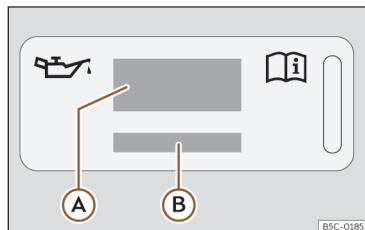
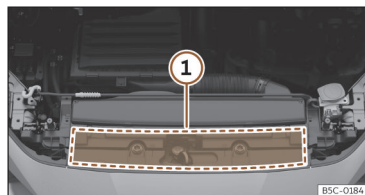

Fig. 229 In the engine compartment: engine oil label
Fig. 230 In the engine compartment: area where the engine oil label is located
Key to the >>> **Fig. 229:**
If the engine oil has to be topped up, use one of the oils shown on the label >>> **Fig. 229**. The label with the prescribed standard is located at the front of the engine compartment >>> **Fig. 230** **1**. If you use the recommended engine oil, you can top up the oil as often as necessary.
- If the label showing the engine oil specifications is missing >>> Fig. 229, please contact a specialist workshop.